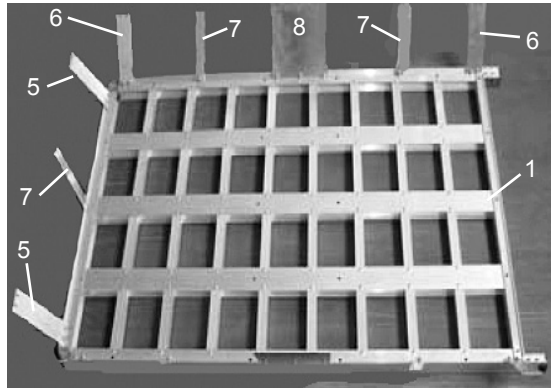

Figure 1
1. Set Bed (1) on a flat, secure work area able to support weight of Carrier.
2. Use Small Bolts (12) and Nuts (13) to connect all supports (5-8) to Bed. See Figure 1.